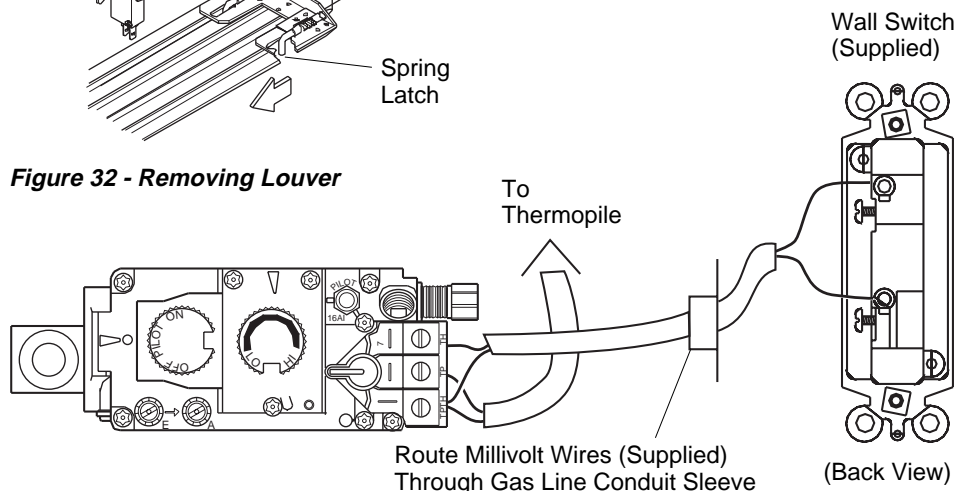

Figure 33 - Wall Switch Wiring Diagram
2. Connect the 18 ga. wires from wall switch (not included) to the gas control valve and microswitch, as shown in Figure 33.
2. Disconnect wall switch wires from TH and TPTH terminals on control valve (see Figure 33).